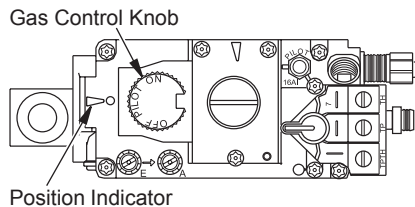

Figure 22 - Millivolt Control Valve
5. Push in gas control knob and turn clockwise to the OFF position (see Figure 22). **Note:** It is recommended that you maintain the gas control knob in the full OFF position during lengthy periods of seasonal non usage.
6. Wait five (5) minutes to clear out any gas. Then smell for gas, including near the floor. If you smell gas, **STOP!** Follow "B" in the safety information above. If you don't smell gas, go to the next step.
8. Push in control knob all the way and hold in. Immediately light the pilot by pressing the red igniter button until a flame appears. Continue to hold the control knob in for about (1) minute after the pilot is lit. Release knob and it will pop back up. Pilot should remain lit. If it goes out, repeat steps 5 through 8.